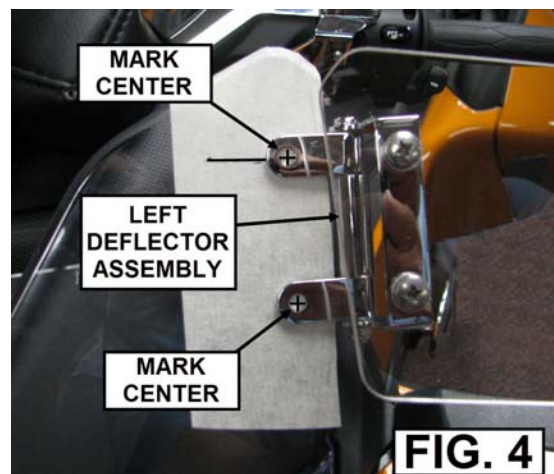

FIG. 4
6. TAKE THE LEFT ASSEMBLY AND HOLD IT ON THE FRONT OF THE OEM WIND DEFLECTOR AS SHOWN IN FIG. 4. LINE UP THE CENTER OF THE TOP HOLE WITH THE LINE YOU MARKED IN STEP 5. SLIDE IT IN SO THAT THE TUBE SPACER IS TOUCHING THE OUTSIDE EDGE OF THE OEM WIND DEFLECTOR.
7. USING A PENCIL OR PEN MARK THE CENTER OF EACH HOLE ON THE RT MOUNTS. SEE FIG. 4.